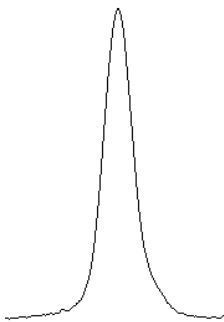
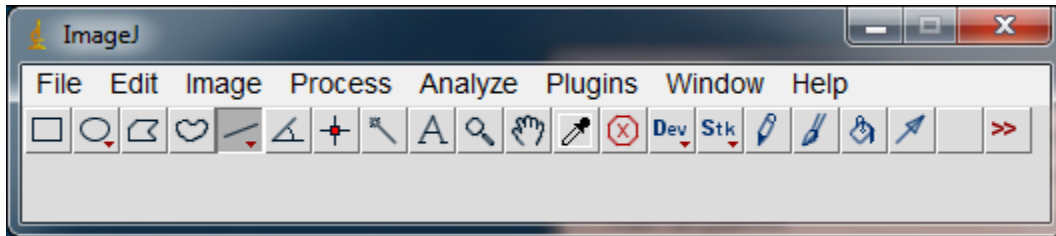

Figure 5. Real western blots often have some background noise, so the peak doesn't reach down to the baseline (= perfect white).
Figure 6. Use the straight line tool to close off the base of each peak of interest.
10. Images of real gels or western blots will always have some background signal, so the peaks don't reach down to the baseline of the profile plot. Figure 5 shows a peak from a real blot where there was some background noise, so the peak appears to float above the baseline of the profile plot. It will be necessary to close off the peak so that we can measure its size.
11. Choose the **Straight Line** selection tool from the ImageJ toolbar (Figure 6). For each peak you want to analyze in the profile plot, draw a line across the base of the peak to enclose the peak (Figure 5). This step requires some subjective judgment on your part to decide where the peak ends and the background noise begins.